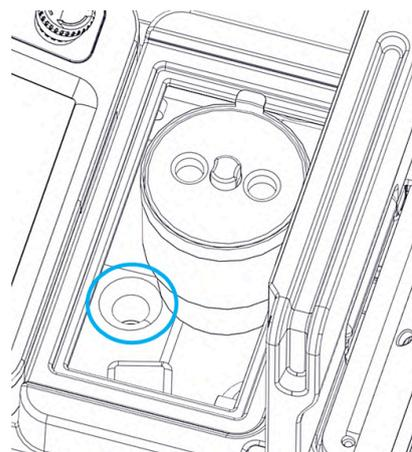

FIGURE 10-4
5. Check for clogging at the drain hose fitting (Fig. 10-4) on the inside of the tank. Clean if necessary.